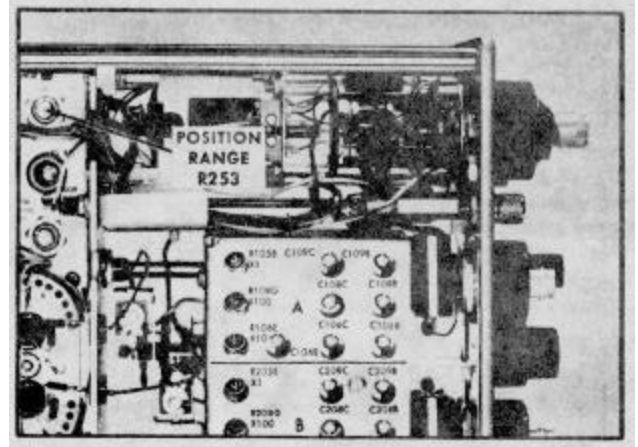

Fig. 5-9. Step 5 adjustment location.
**5. Adjust POSITION RANGE R253** ①
- b. Adjust the POSITION RANGE control R253 (see Fig. 5-9) so the trace coincides with graticule center.